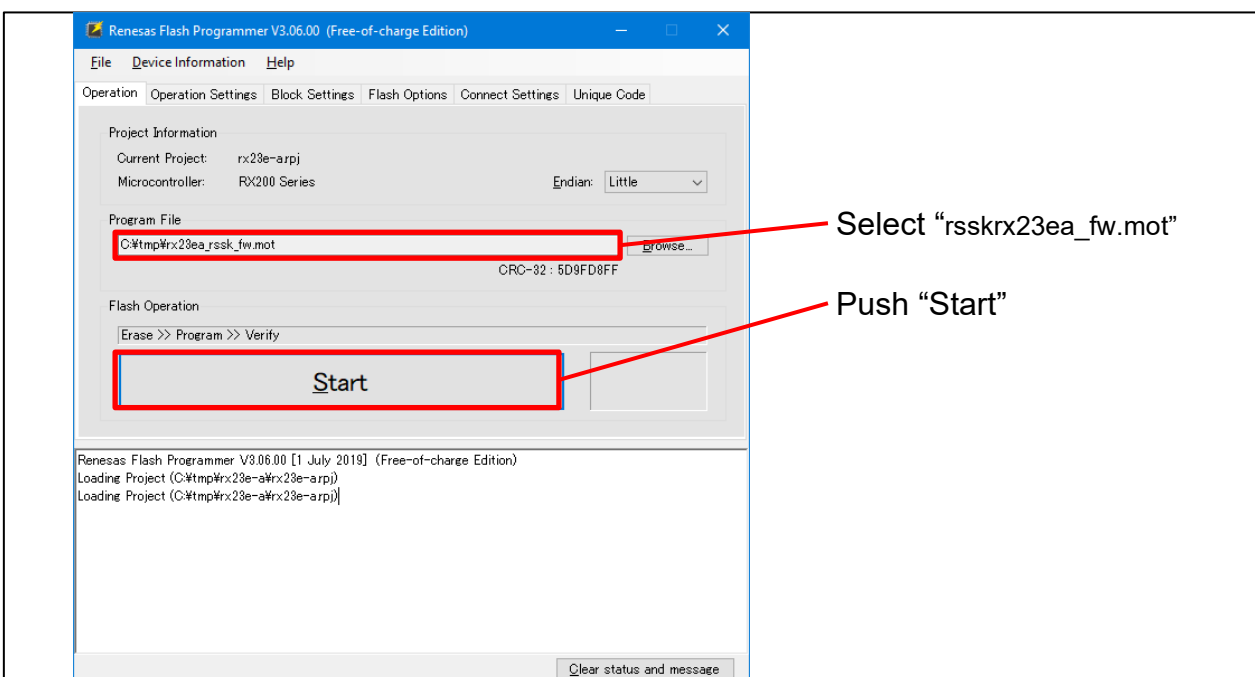

Figure 4-3 RFP Writing Operation
4. Select “rskrx23ea\_fw.mot” file, then click “Start” after reset RSSKRX23E-A board.in reference to Figure 4-3.